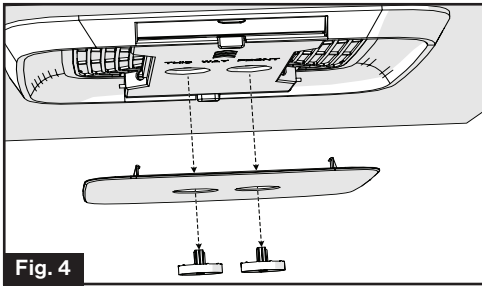

Fig. 4
4. Remove the two control knobs by pulling downwards (Fig. 4).
5. Take off the decoration plate from the trim kit by pushing the side tabs to release (Fig. 4).